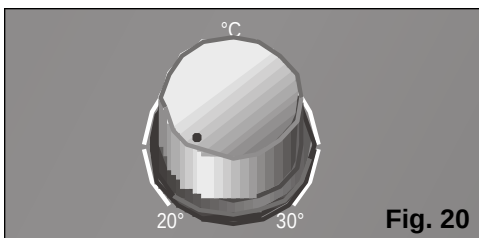

Fig. 20
- ☐ Set the thermostat to its minimum temperature setting, **Fig. 20**.